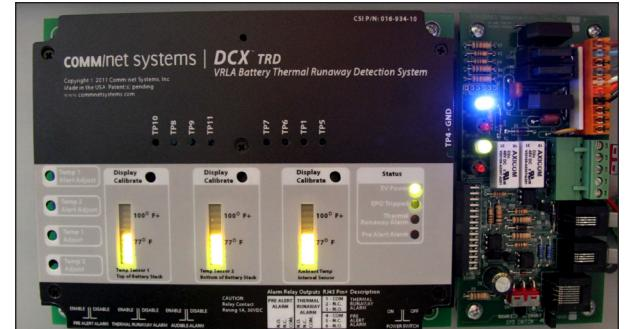

Figure 1. TRD Board
- TRD Control Board 1 See "Figure 1. TRD Board" on page 2